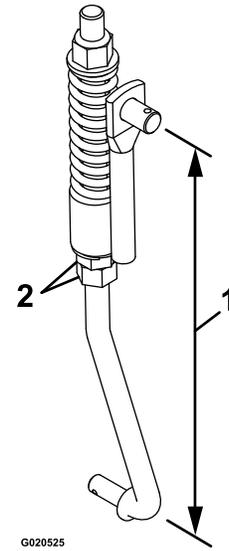

Figure 56
- Adjust the linkage length with the 2 nuts at the bottom of the vertical spring assembly (Figure 56).